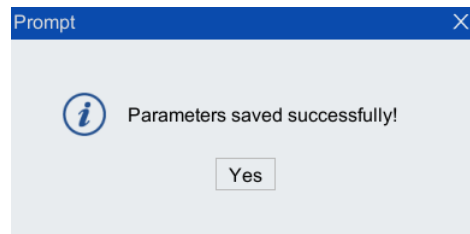

Figure 4-19 Save successful prompt box
Step5. Click <Yes> in the pop-up dialog box of successful parameter saving. As shown in Figure 4-19.